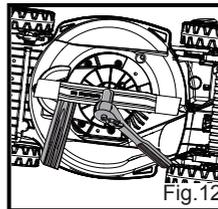

Fig. 12
Replacing the Mower Blade (See Fig. 12)
- Wear sturdy gloves and hold the blade firmly. Turn the blade screw anticlockwise off the motor spindle using a suitable wrench and remove it together with the blade (Fig. 12).